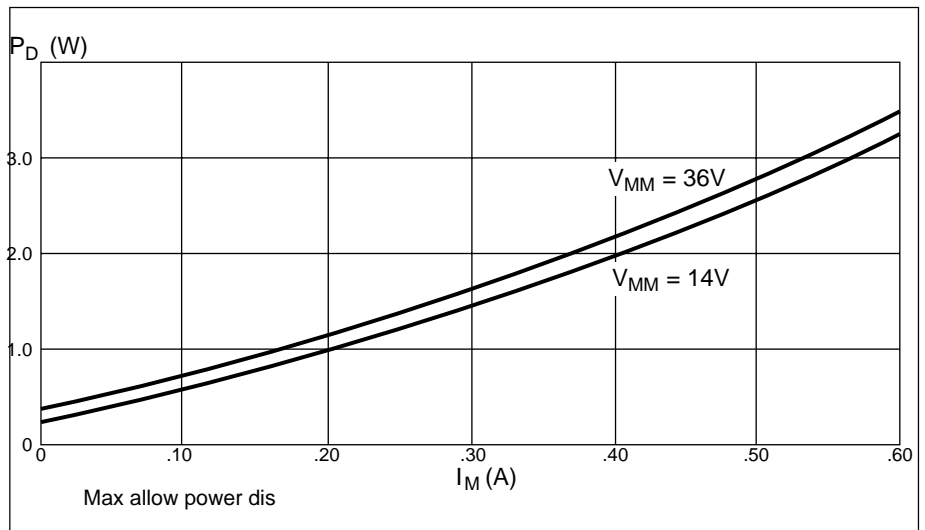

Figure 12. Power dissipation vs. motor current, both channels driven,  $T_a = 25^\circ\text{C}$ .
**Heat sinking.** Soldering the four center pins onto a free PCB copper area of 20 cm2 (approx. 1.8" x 1.8", copper foil thickness = 35  $\mu$ m) permits the circuit to operate with a maximum of 320 mA output current, both channels driving, at ambient temperatures up to +70°C. Consult figures 12 and 13 in order to determine the necessary copper area for heat sinking if higher currents are required.